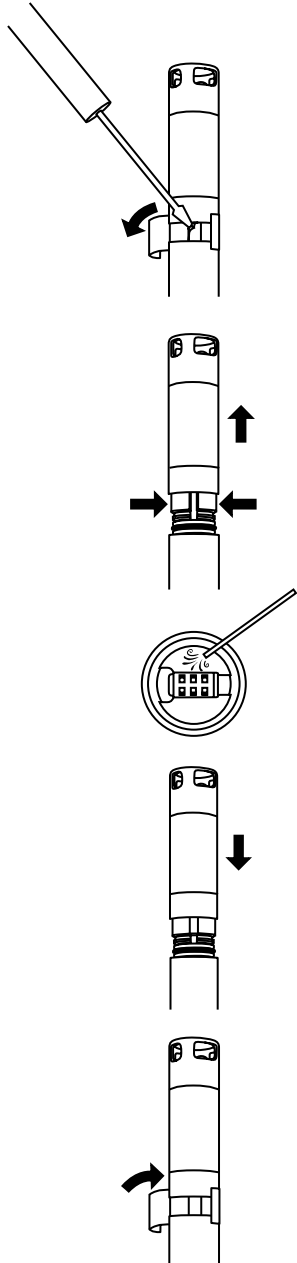

Figure 81 Sensor module replacement
1. Peel off and discard the sticker that covers the junction of the sensor body and the module (Figure 81).